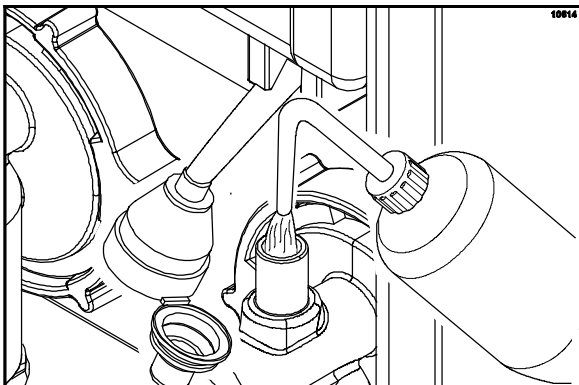

Figure 14
13. Fill the squeeze bottle with water. Fill both pump heads with water. (See Figure 14.)